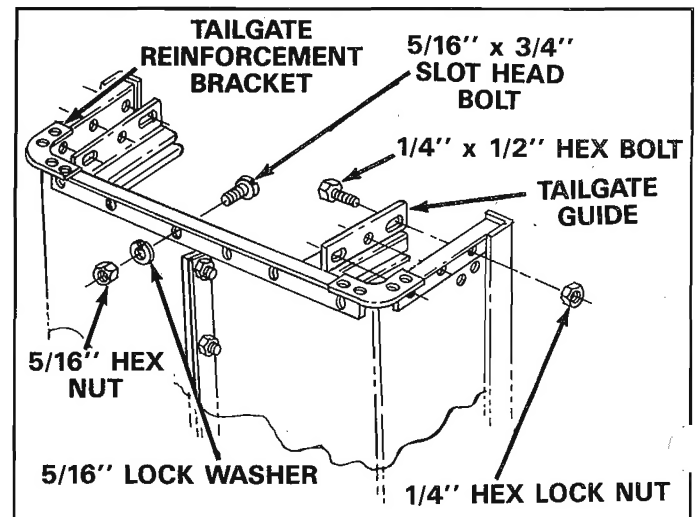

FIGURE 4
7. Start 5/16" x 3/4" slotted screws through bottom of cart (heads of screws to the inside of cart) and reinforcement bracket. Secure finger tight with 5/16" hex nuts and 5/16" lock washers. See figure 4.
8. Position the tailgate guides so that the holes line up with reinforcement bracket and cart body. Refer to tailgate guide detail in figure 4.
9. Secure tailgate guides with six 1/4" x 1/2" hex bolts and 1/4" hex lock nuts. See figure 4. Tighten bolts assembled in steps 6, 7, and 8 at this time. Do not tighten others.